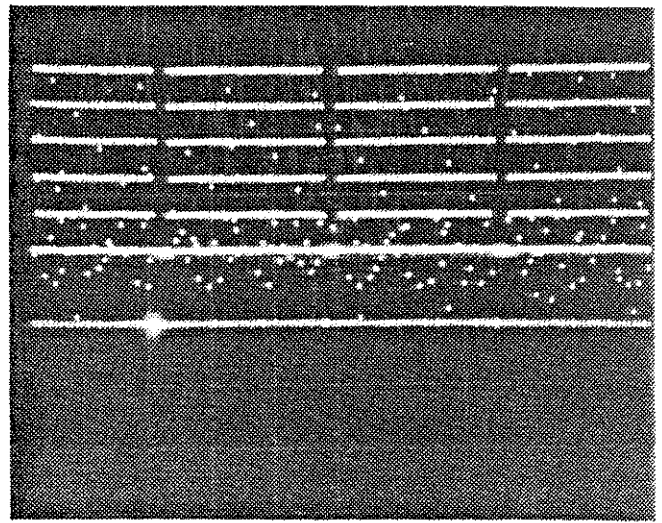

Fig. 6-2 Composite video display.
8. Press the RESET/HOLD key again, which will cause a Reset and a trigger to cause the acquisition. The waveform shown in Fig. 6-2 should be displayed.